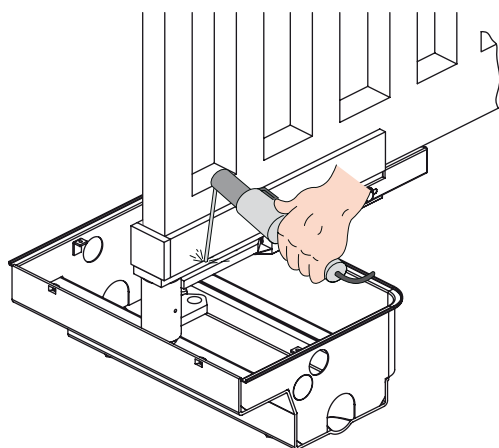

Fig. 11
- Carefully weld the guide bracket to the support bracket (Fig. 11).